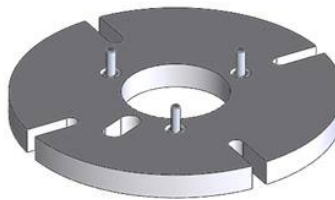

Figure 26: Captive Bolts
- Ensure the Fixing Plate Captive Bolts for securing the Bearing Housing are fitted to the Fixing Plate (Figure 26).